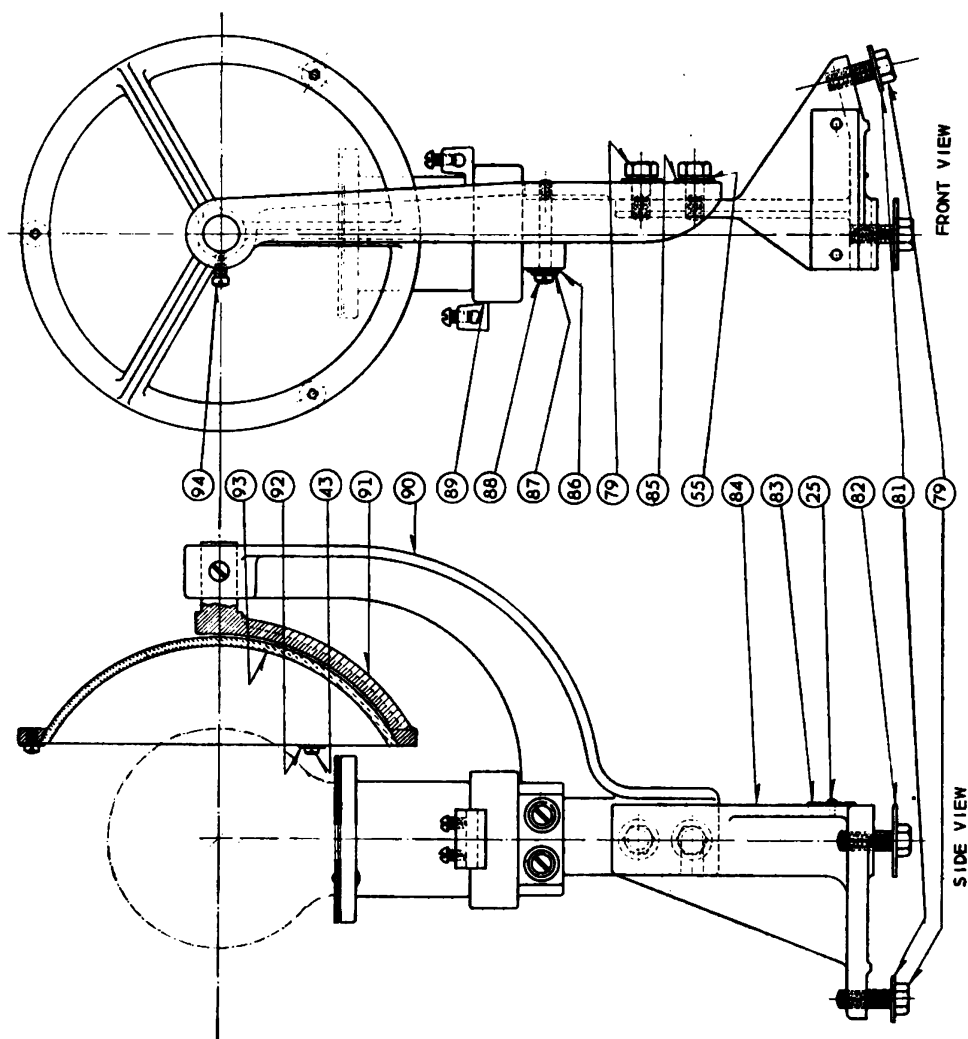

Fig. 10—Ceiling Light Projectors ML-121-A, B, C, E and F, Prefocus Socket and Secondary Reflector Assembly
(Figures 10 and 11). A secondary reflector (item 93) is replaced by:
a. Removing the three screws and washers which hold the reflector in place. If one of the screws should be in front of the lamp socket and inaccessible, loosen the screw shown in the illustration as item 94 and rotate the reflector holder slightly.
b. If the two images are not "interlocked" loosen the screw (shown in figures 10 and 11 as item 94) and **gradually** rotate the reflector holder on its shaft, observing the movement of the secondary image at the same time. Since the reflector holder is slightly eccentric, at some point in its rotation the secondary image will be seen interlocked with the primary image, indicating the correct adjustment.
- (1) In focusing the unit, be sure to focus the lamp with respect to both the auxiliary and the main reflector. First focus the lamp for the auxiliary reflector, and then focus the complete assembly for the main reflector.
- (2) Focusing the auxiliary reflector is best done by eye. Use either a pair of welder's goggles, or arrange the unit so that the voltage on the lamp terminals can be reduced to the point where the observer can look directly at the filament without discomfort.
- (3) For most convenient focusing of this unit, it is recommended that the complete lamp assembly be removed from its housing.
- (4) To look through the lamp bulb, towards the auxiliary reflector, loosen the screw (item 94) shown in figures 10 and 11, and gradually rotate the reflector-holder on its shaft, observing, at the same time, the filament image. Since the reflector-holder is made slightly eccentric, at some point in the rotation, the filament image should be seen super-imposed upon the filament itself in such a manner that the reflected image of the coils comes halfway between the coils of the filament itself. If necessary move the secondary reflector-holder in or out on its shaft in order to effect the proper adjustment.
- (5) Tighten the reflector-holder screw after making these adjustments. Replace the lamp assembly in its housing.
- (6) In order to focus the assembly of the auxiliary reflector and the lamp for the main reflector, first level the housing so that